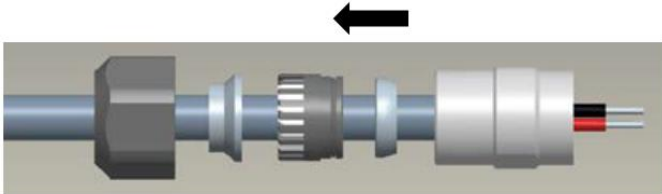

Figure 4-16 Slide the components
Step 1: Slide the components 3/4/5/6 (or 7 / or 8) /9 /10 over the cable . as shown in Figure 4-16.